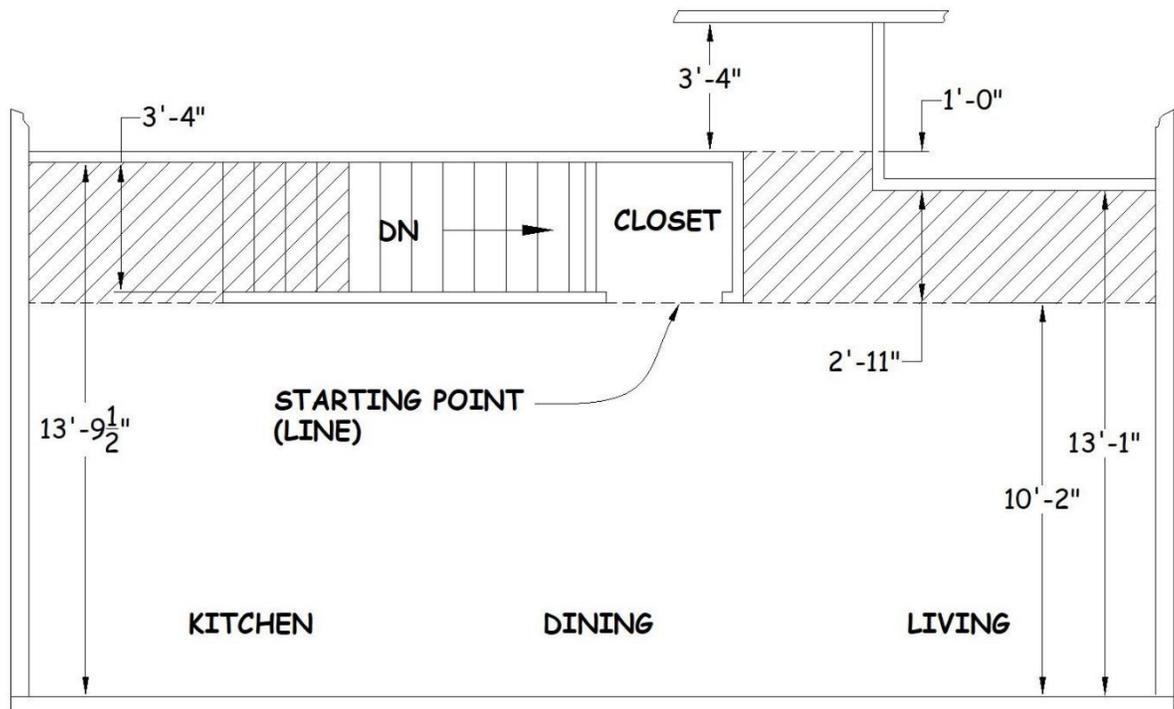

Figure 13-1. Determining the Starting Point Along Interior Common Area Walls
1. If the common area (i.e., the open kitchen/dining/living room area) has off-set and parallel interior walls, the objective is to determine the starting point. The starting point is a line parallel to the exterior wall that defines the end of the interior wall pieces and the beginning of the first full width row of sheetrock. If a starting point has not been determined, follow the instructions below as they relate to the example provided in Figure 13-1 (where the cross-hatching indicates the first row of sheetrock).
3. Examine the plan drawing with added dimensions. Starting with the interior wall furthest from the exterior wall, determine if a full width sheet will work there. (In Figure 13-1, a full width sheet would result in less than a 16" width along the interior stairway and closet wall).
4. If a full width sheet cannot be used, use the plan drawing to evaluate another option, e.g. a 2' piece or a 3' piece. (In Figure 13-1, a 2'-11" piece installed along the interior bedroom wall will provide a good starting point. It satisfies the 16" minimum width along the interior wall and the 12" minimum width along the exterior wall. The width along the exterior wall will be 2'-2", i.e., 10'-2" minus two full width rows.)
5. Also evaluate hallway areas extending from the kitchen/dining/living room areas. (In Figure 13-1, note that by extending the 2'-11" piece around the corner and into the hallway, a narrow filler piece could be avoided.)